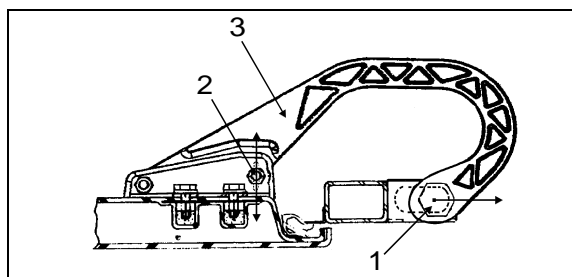

FIGURE 73: DOOR HINGE
2. Loosen nut (1, Figure 73).
3. Move part (3, Figure 73) as shown in figure for "LEFT or RIGHT" adjustment.
4. Tighten nut (1, Figure 73).
5. Loosen nut (2, Figure 73).